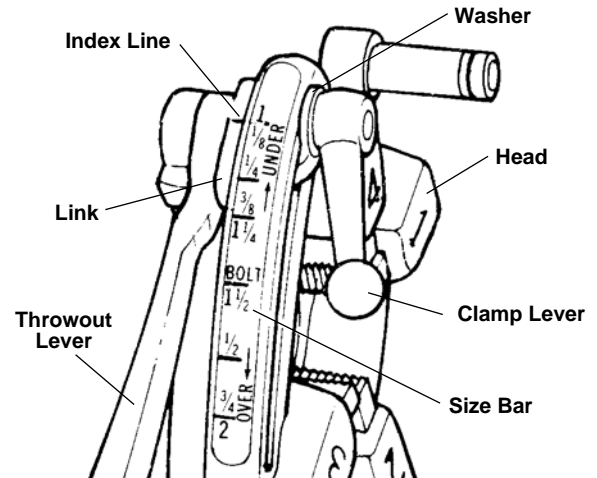

Figure 8 – 811-A Quick-Opening Die Head
6. Quick-Opening 811A Die Head (Figure 8) – When thread is completed, raise throwout lever to open position, retracting dies.
The 811-A Universal Die Head (*Figure 8*) for right-hand threads requires four sets of dies to thread pipe ranging from $\frac{1}{8}$ " through $1\frac{1}{2}$ ". One set of dies is required for each of the following pipe size ranges: ($\frac{1}{8}$ "), ($\frac{1}{4}$ " and $\frac{3}{8}$ "), ($\frac{1}{2}$ " and $\frac{3}{4}$ "), and (1" through $1\frac{1}{2}$ "). Bolt threading requires a separate set of dies for each bolt size.